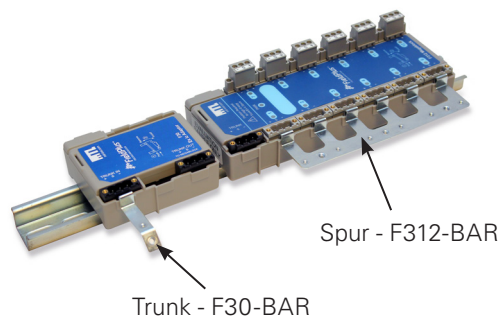

Figure 4.7 - Typical grounding bars
2. Locate the grounding bar lug in the moulded position on the side of the F30 and press it firmly into place - see Figure 4.7.